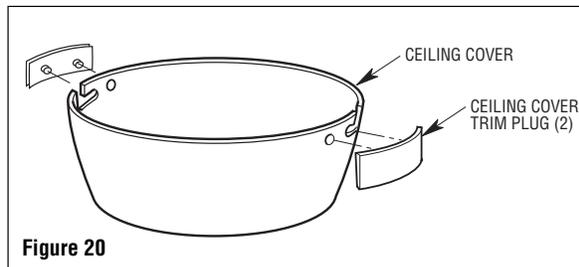

Figure 20
3. Remove the ceiling cover trim plugs pre-installed to the ceiling cover (Figure 20).